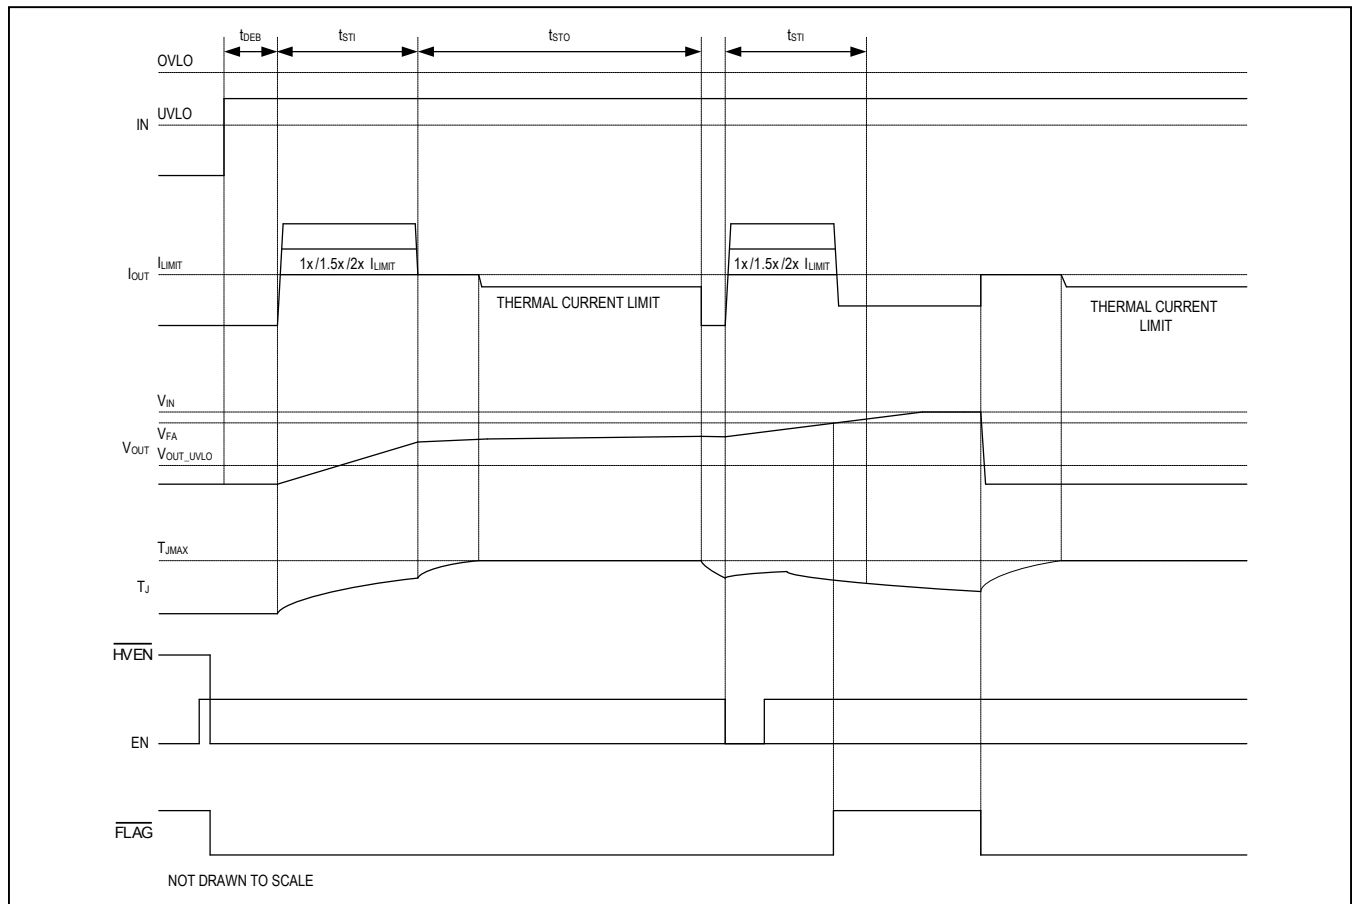

Figure 5. Continuous Fault Diagram
**Continuous Mode (Figure 5)**